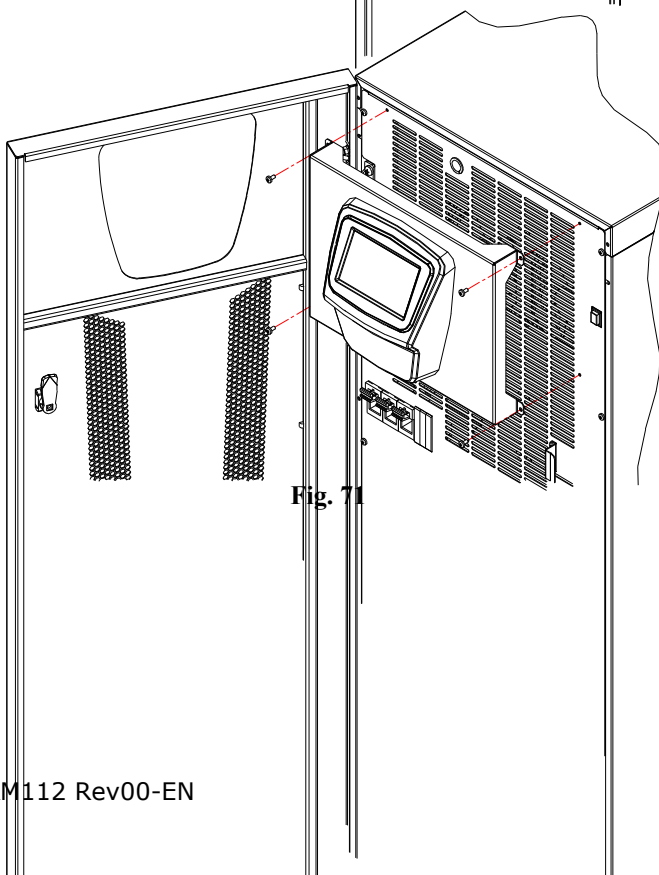
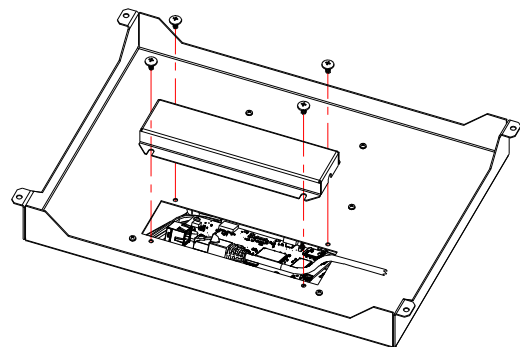

Fig. 71
Fig. 72
- **XTD:** remove the n°4 screws from the metallic display support (Fig. 71). Remove n°4 screws from the cable cover (Fig. 72), then remove the RJ45 cable.